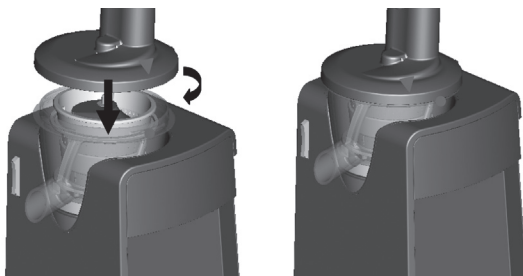

Fig. 6
- 6) Seat the lid (8) on to the juice collector (4) so that the outer left mark ■ on the lid aligns with the mark ● on the motor unit (2). Then turn the lid in the clockwise direction all the way so that the mark ● on the lid aligns with the mark (🔒) CLOSE (fig. 6).